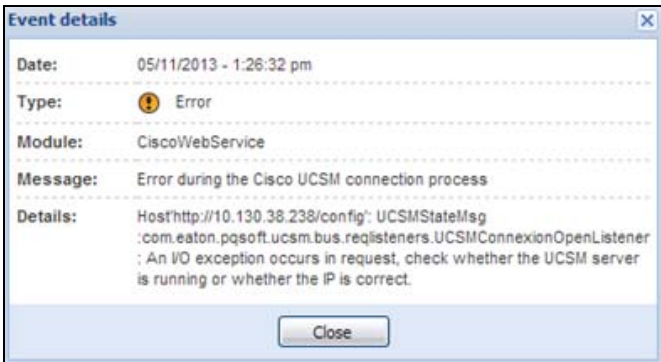

Figure 221. UCS Manager Not Found
3. IPM can't find a UCSM on the IP provided (see Figure 221).